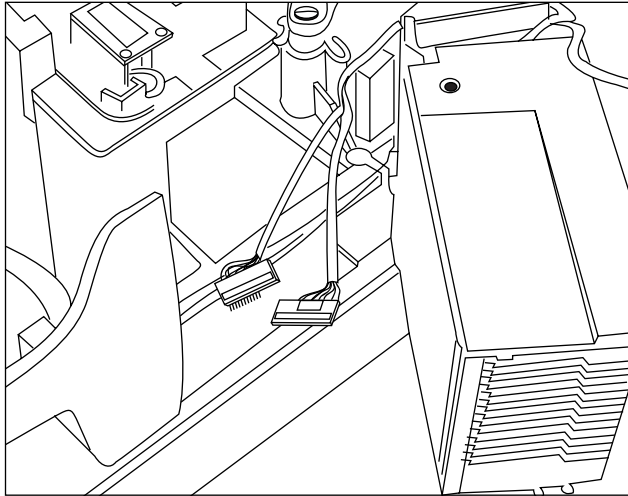

Figure 5-16. Opening Card Cage
5. Loosen the screw on the base of the cash register near the bottom left side of the card cage. Swing the card cage open by pulling on the left side. See Figure 5-16.